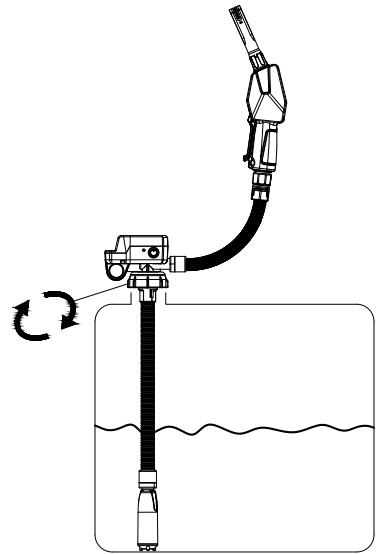

Fig.5
1.Insert the intake hose through the adapter and fasten the pump connector tightly as shown in Fig.5,and ensure that the intake tube is inserted into the liquid to be transferred.